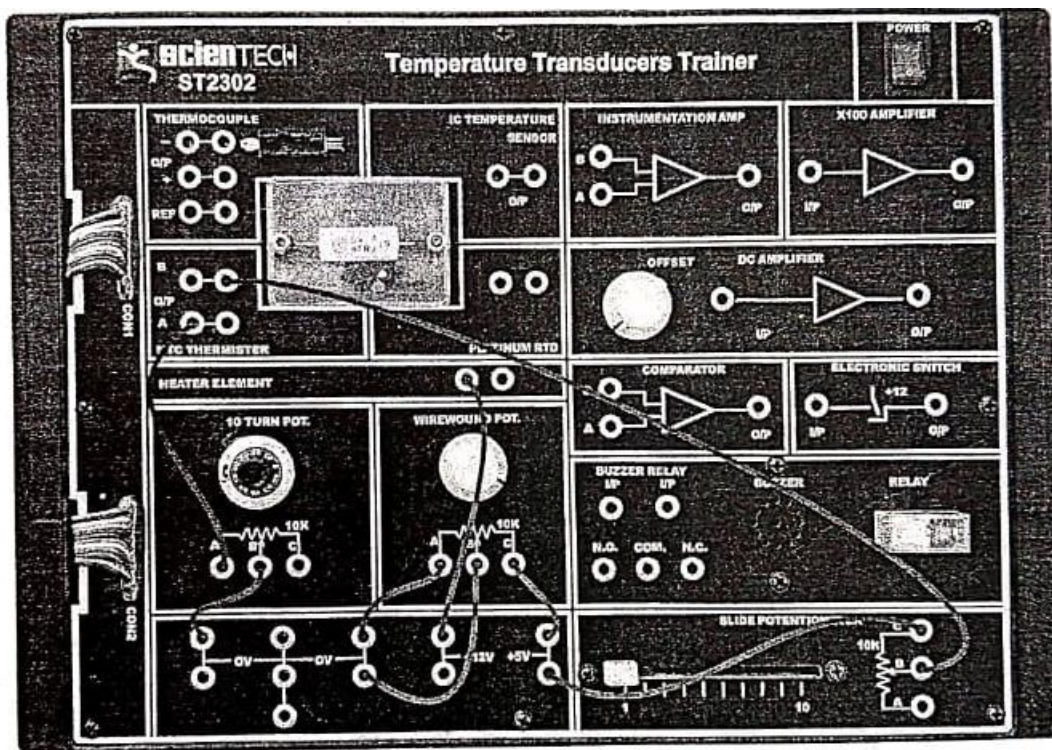

Figure 9(D).1
1. Connect the circuit as shown in the Figure 9(D).1